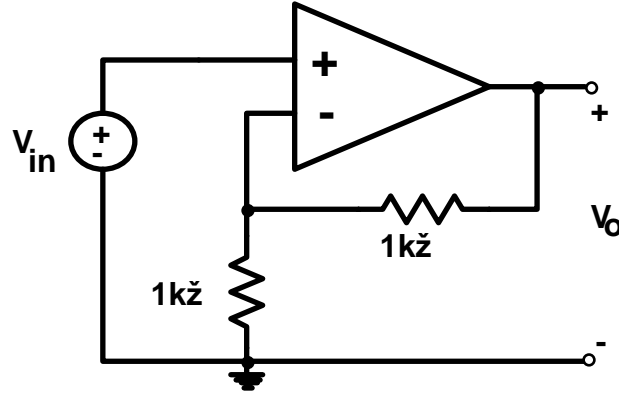

Figure 8.4a Ø
(1) Assemble the circuit of Figure 8.4a on the Heathkit trainer breadboard. Measure and record the actual values of the nominal $1\text{k}\Omega$ resistors. Remember the power supply connections: use $V_+ = +12$ volts to IC pin 7, use $V_- = -12$ volts to IC pin 4. Include $0.01\mu\text{F}$ bypass capacitors between +12V and ground and between -12V and ground, placing the capacitors as close to the IC as possible. Use the bench power supply for V_{in} . Note that V_{in} is referenced to ground: make sure you have the negative terminal of the bench supply connected to the ground on the trainer board. Record the output voltage as you carefully vary V_{in} between 0 volts and 7 volts in 0.5 volt steps.